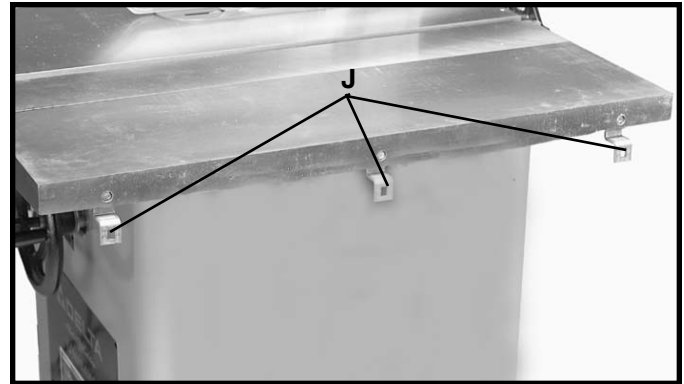

Fig. 44
8. Fig. 44, illustrates Z-brackets (J) properly assembled to extension wing.